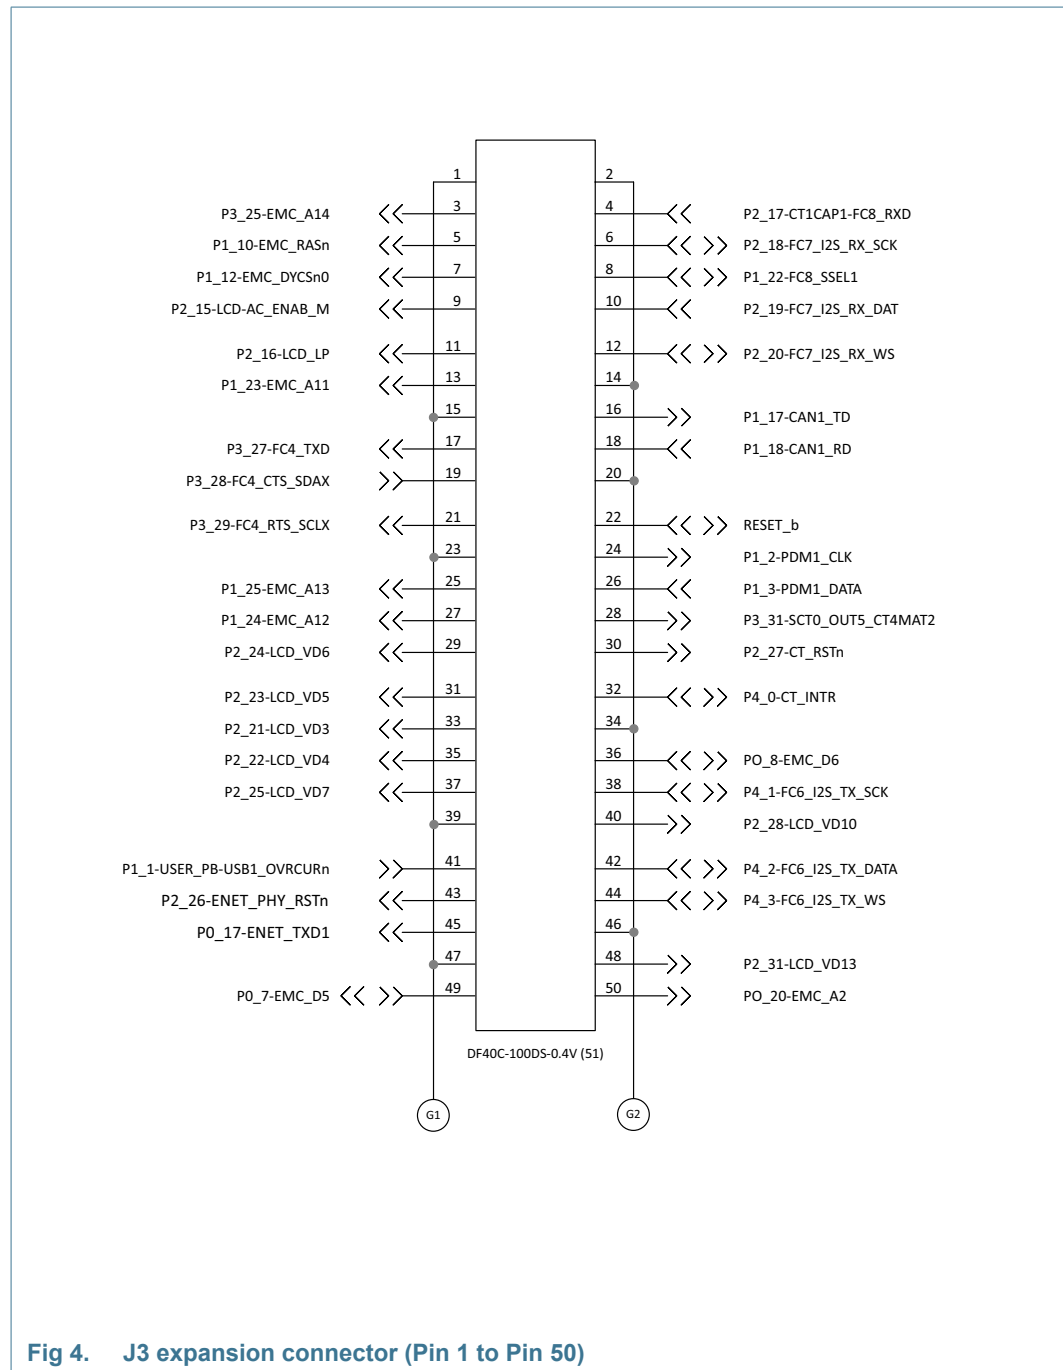

Fig 4. J3 expansion connector (Pin 1 to Pin 50)
The module incorporates two expansion connectors to give access to the I/Os of the LPC54018 device, as shown in Figure 4 and Figure 6. Note that many port pins of the LPC54018 can be configured to one of the several functions. So, a baseboard designed to receive the module may use different functions shown on the labels in these diagrams. For full information on I/O configuration, refer to the user manual for the LPC540xx family devices. DF40C-100DP-0.4V(51) is the mating part number for use on baseboard designs from Hirose.